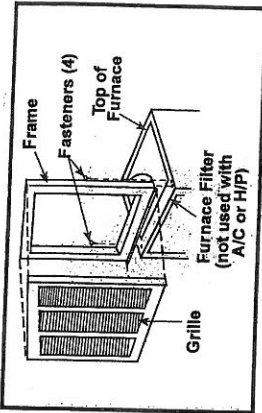

Figure 2. Grille Support Frame & Grille Assembly
- Use the filter supplied with the furnace; ensure that the filter is installed mat side down between the filter retainer and furnace top. See Figure 2.